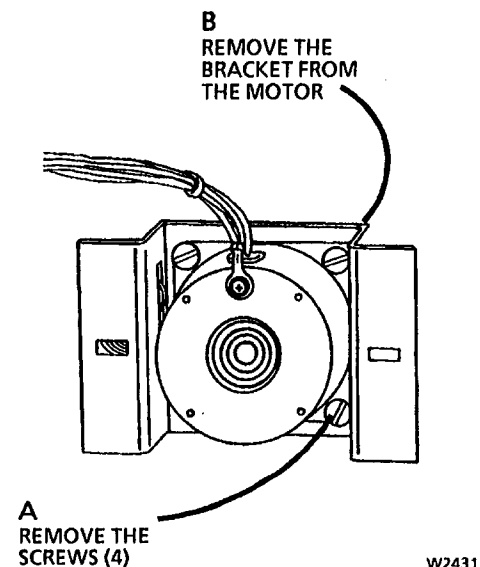

Figure 2. Removing the Bracket
3. (Figure 2): Remove the bracket from the Roll Driver Motor.